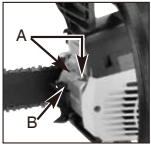

Fig. 17A
1. Remove the 2 bolts (A) and pull muffler out. (Fig. 17A).